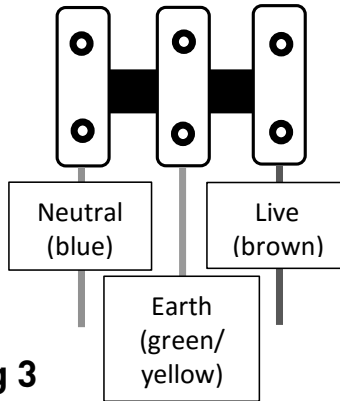

Fig 3
- Connect Live (brown), Neutral (blue) and Earth (green and yellow) to the 3-way terminal block (see Fig 3)